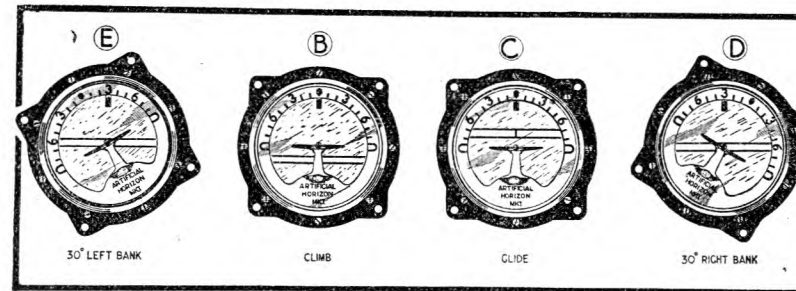

Fig. 2.
level flight with the miniature aeroplane (F) in the centre and level with the horizon bar (H). This bar is part of the gimbal and gyro system, and it therefore remains stationary in whatever attitude the aeroplane assumes. (E) Fig. 2 shows the indicator reading a 30-degree left bank. The miniature aeroplane and the numbered scale have now moved round the stationary horizon bar, and the flying attitude is indicated by the difference between the position of the miniature aeroplane (which represents the full-sized air-
(B) and (C) Fig. 2 indicate a climbing attitude and a diving attitude respectively. It will be seen that the miniature aero-